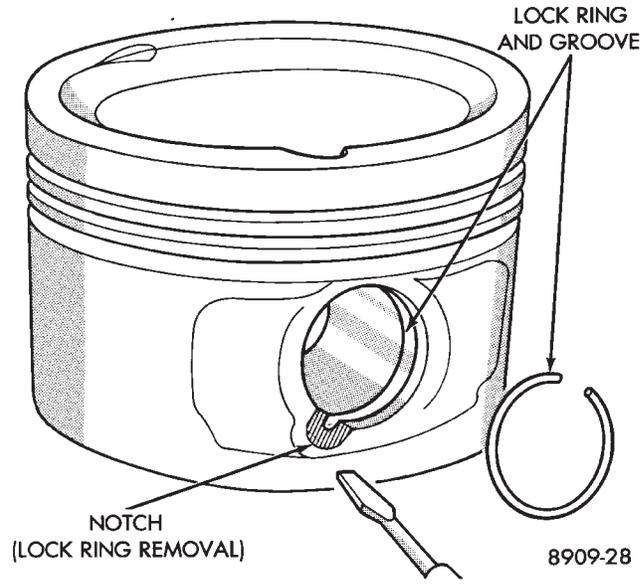

Fig. 10 Piston Pin Lock Ring Removal Notch-Turbocharged Engine
(1) Carefully, remove piston pin lock rings from piston, using a small screwdriver in removal notch (Fig. 10).
(2) Discard used lock ring.
(3) Following lock ring removal, attempt to slide pin out of piston. If pin does not slide out freely by hand;
(4) Slide out piston pin to complete disassembly.